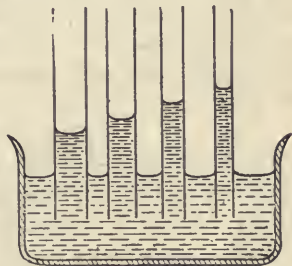

FIG. 15.—Capillary attraction in tubes.
24. Capillarity.—A striking action of the surface film of a liquid is seen in the rise of liquids in tubes of small bore when the liquid *wets* them. If the liquid *does not wet* the tube, as when mercury is placed in glass, the liquid is depressed. It is found in general that: *Liquids rise in capillary tubes when they wet them and are depressed in tubes which they do not wet; the smaller the diameter of the tube the greater the change of level.* (See Fig. 15.) This action is explained as follows: The molecules of a liquid have an attraction for each other and also